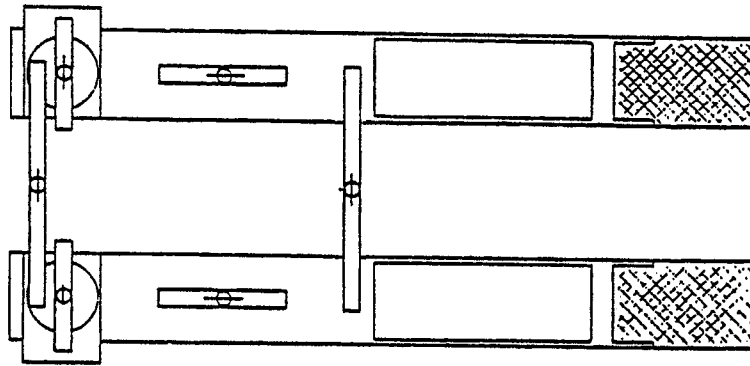

Figure 7. Deck leveling
6. Check and adjust the decks for level using the 4' level. Adjusting screw and jam nuts should be adjusted until each corner of lift is level. Make sure jam nuts are tightened after levelling. Both the front turn plate cutouts and rear slip plates should be checked. Refer to **Figure 7.**